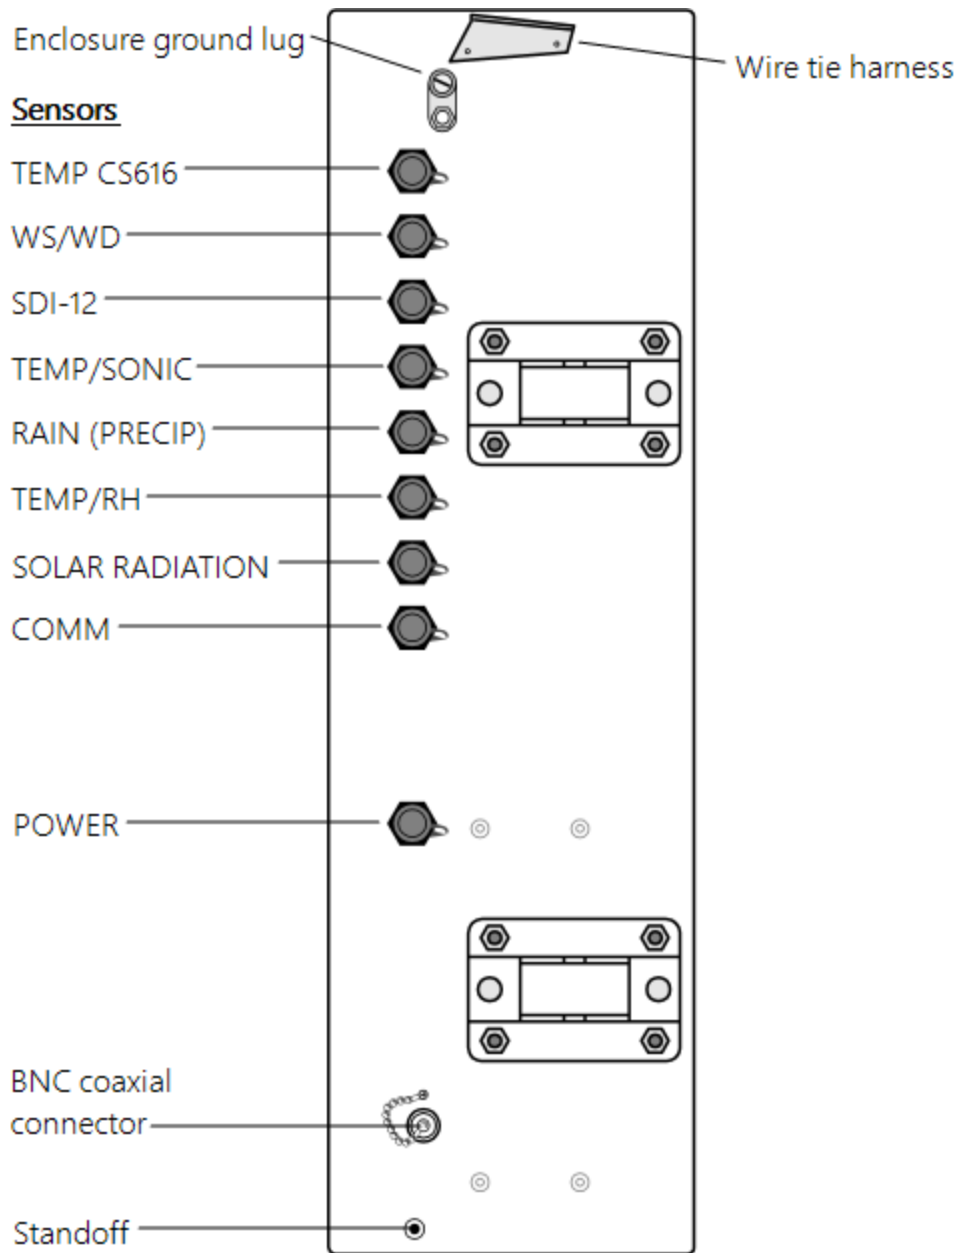

FIGURE 6-3. Position of bulkhead connectors
7. Connect the power plug to the POWER connector on the back of the enclosure (FIGURE 6-3 (p. 16)). Ensure that the plug is completely seated on the connector and the locking ring is turned a quarter revolution clockwise.